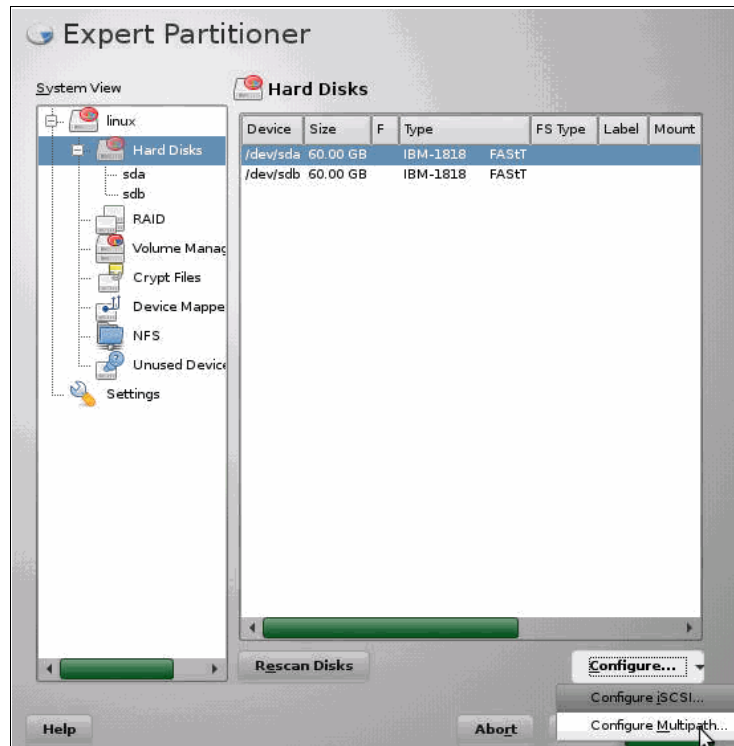

Figure 2-97 Selection of Multipath
- After clicking **Hard Disks**, we click the **Configure** button at the bottom right corner of the panel, and select **Configure Multipath** as shown in Figure 2-97.